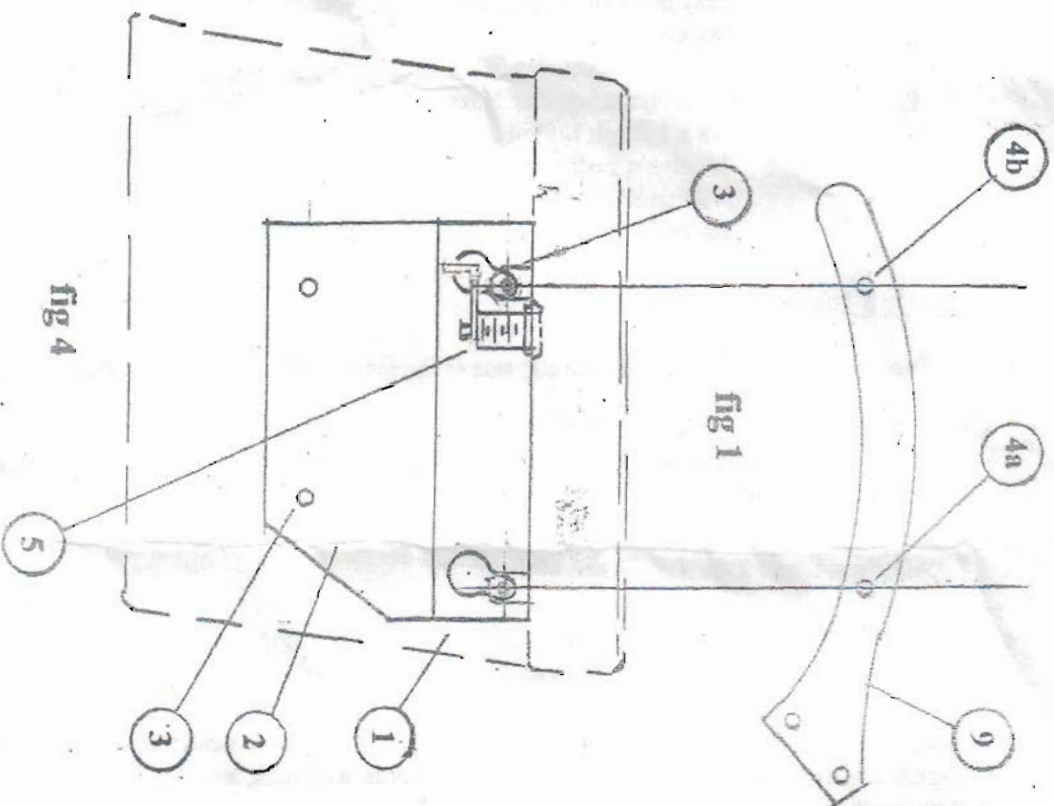

fig 4
6. Place the bracket on the saddlebag within the outline and drill the 4 holes for mounting. (See fig 4) Attach the bracket to the saddlebag using the (4) 3/8 x 1 black button head bolts, (4) 3/8 fender washers and (4) 3/8 Nylon locking nuts. Install the completed RH saddlebag with EASY BRACKETS on the motorcycle. **Note: The cam lock must be fully engaged and the barrel key removed to ensure the EASY BRACKETS are properly installed and ready for use.**